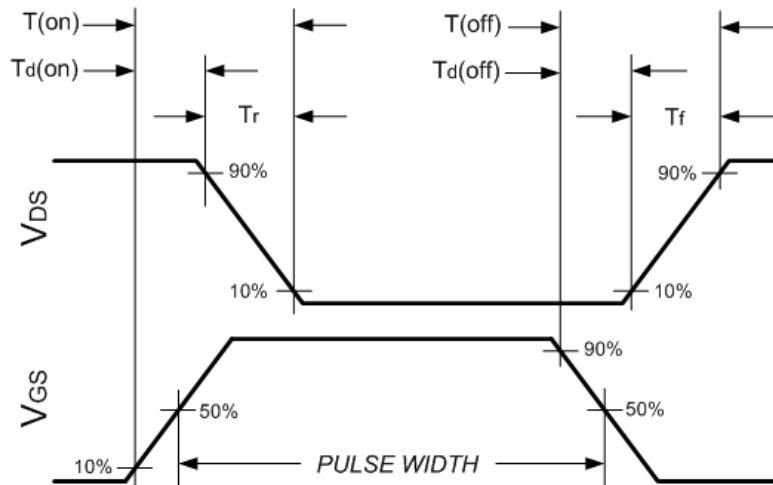

Figure 1. Switching Characteristics Waveforms and Symbols
- Refer to Figure 1 for definition of switching characteristics symbols.
4. Refer to Figure 1 for definition of switching characteristics symbols.